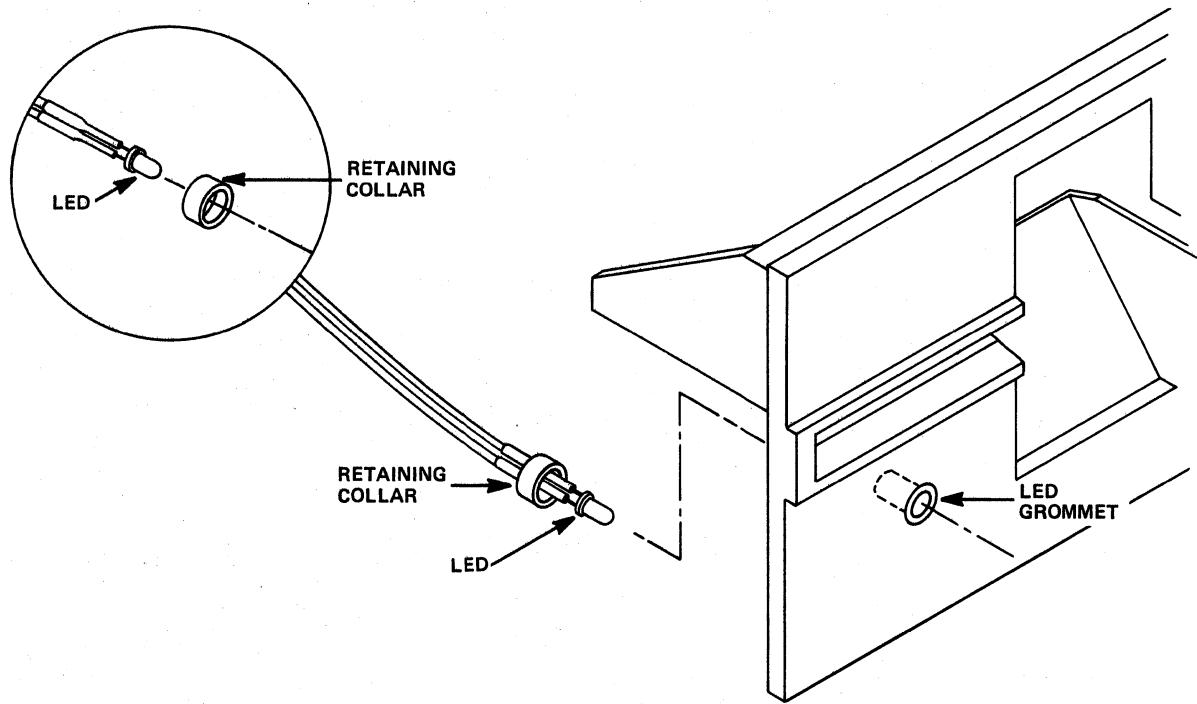

Figure 5-12
- 5.7.3** Remove the retaining collar that attaches the Activity LED Assembly to the front panel by taking a pair of needle nose pliers and gently pulling the retaining collar away from the front panel (see Figure 5-12).
5.7.10 Push the Activity LED Assembly retaining collar over the back of the LED grommet (see Figure 5-12).